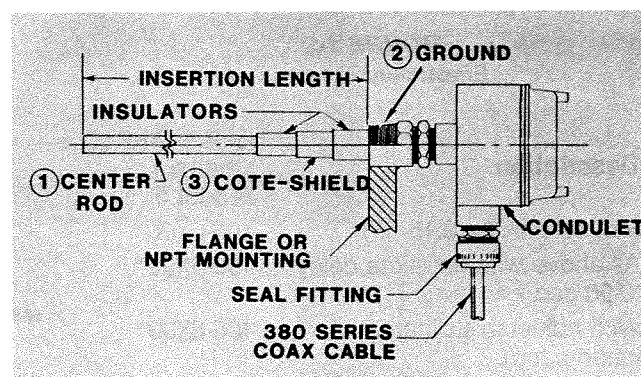

FIGURE 1-2A
The sensing element is mounted in or near the material being measured and provides a change in RF admittance indicating presence or absence of material. It consists of three sections (center measuring section, ground, and Cote-Shield) which compliment the Cote-Shield electronics. The Cote-Shield element guards against the transmission of RF current through any coating on the sensing element, from the center measuring element to ground. The only path to ground available for the RF current is through the material being measured. See Figure 1-2A.
1.2.3 Sensing Elements (See Figures 1-2A and 1-2B.)